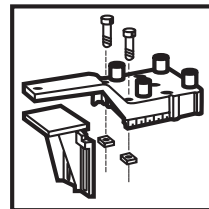

Figure 17
7. Attach the angle piece to the dowel jig using the screws and square nuts. Insert the screws through the two holes on the top of the jig and attach the square nuts to the bottom. Do not tighten. Slide the angle piece into the slot between the bottom of the jig and the square nut. Keep the angle piece slightly loose. See Figure 17.